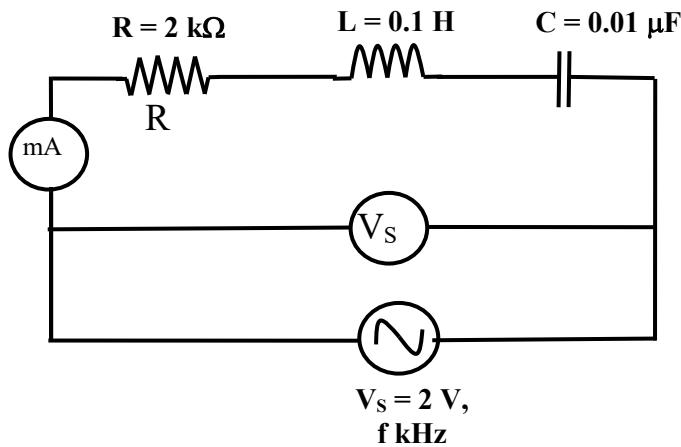

Figure: 1 Series RLC resonant
In a series RLC resonant circuit as in Figure 1, there is frequency f_o of the voltage source V at which $X_L = X_C$. Therefore
1. Connect the circuit as shown in Figure 1.